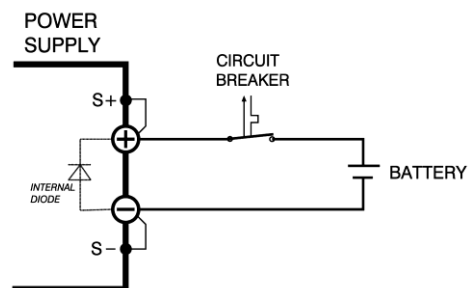

Figure 7.9: Charging battery with a circuit breaker in series to protect the internal diode.
- Use a Circuit Breaker in series in order to protect the power supply from accidental reverse connection, see Figure 7.9.